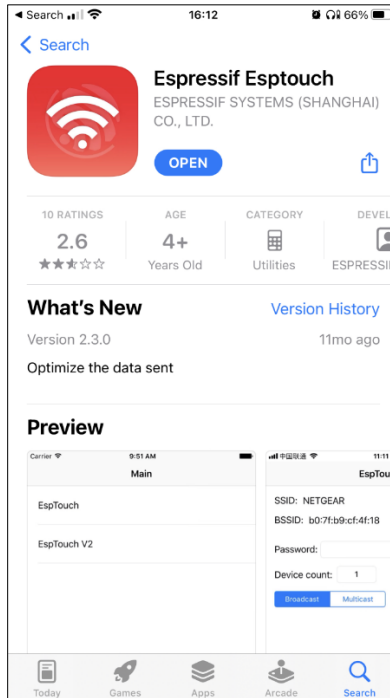
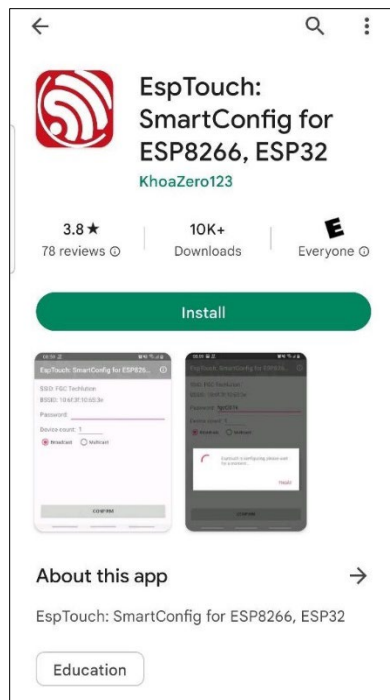

Figure 9: App on App Store (Apple)
Figure 10: App on Google Play (Android)
2. Download ESPTouch app from App Store or Google Play. See *Figure 9* and *Figure 10*.